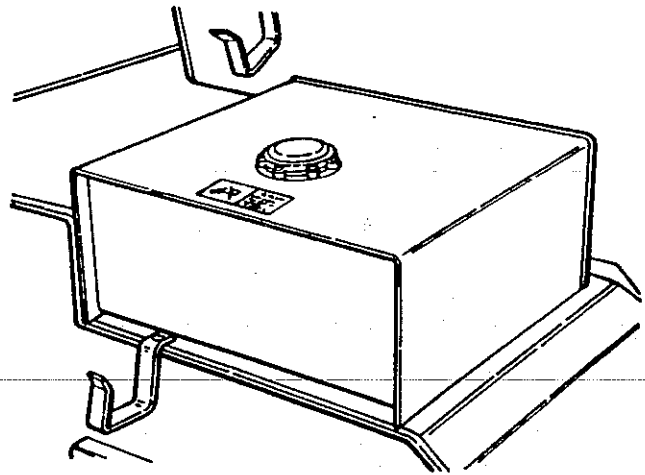

Figure 3-12. Soap Tank
2. Fill the soap tank, see figure 3-12.